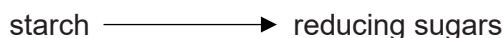

Fig. 1.1
- 1 The enzyme amylase catalyses the hydrolysis (breakdown) of starch to reducing sugars, as shown in Fig. 1.1.